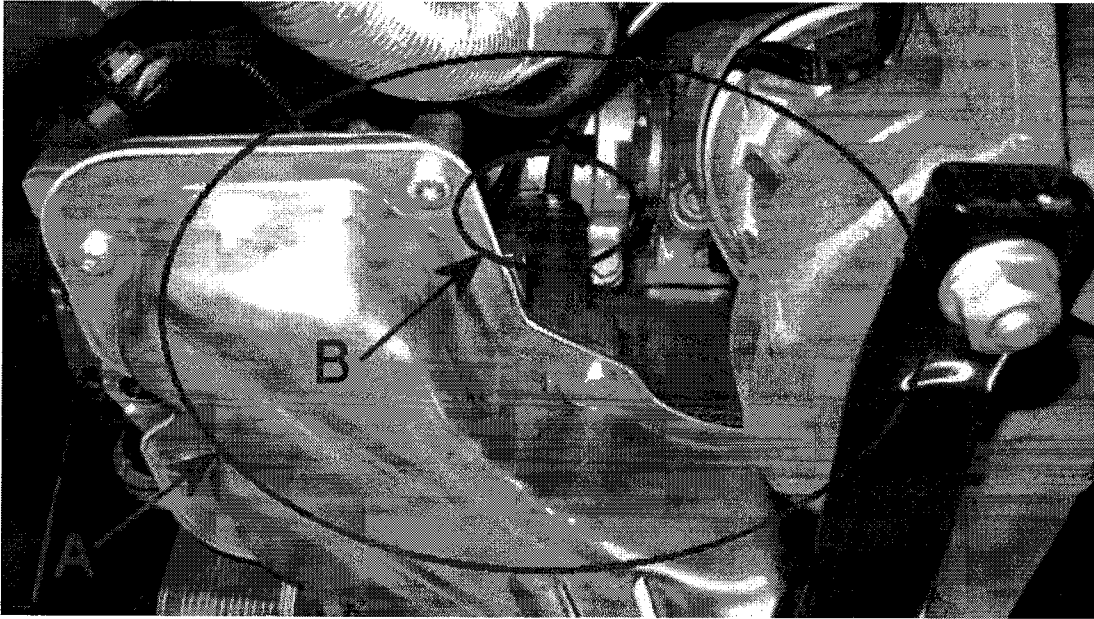

Figure 2
2. Referring to Figure 2 check for any evidence of an engine oil leak within the area circled (point A), particular attention should be made around the base of the dipstick tube (point B)